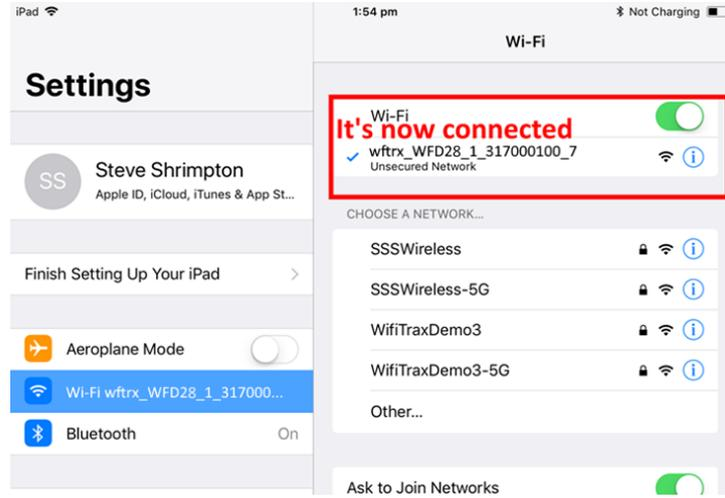

Figure 9 The iPad has connected to the WFD-28 Wi-Fi Access Point
- (6) No password is required and after a few moments you should see that it has connected as in Figure 9. The left-hand menu shows Wi-Fi wftrx_WFD2X_1_XXXXXXX_7. You will not be able to access the internet while you are connected to the Wi-Fi access point of the WFD-2X, but consult the manual to find out how to put everything on your home network.